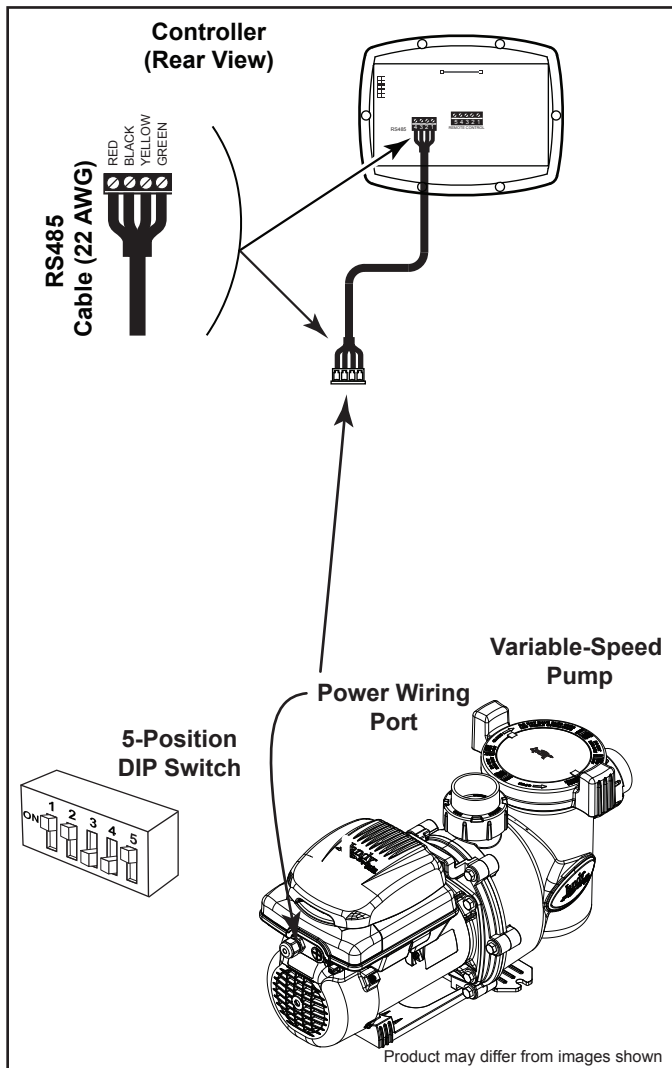

Figure 9. Wiring Variable-Speed Controller (JEP-R)
4. Attach the four (4) wires in the RS-485 cable to the RS-485 connector. Match the wire colors with the positions on the connector: 1- red, 2- black, 3- yellow, and 4- green. See Figure 9.
6. Slide DIP switches 1 and 2 up, so they are in the ON position, and slide switches 3 and 4 down, so they are in the OFF position. See Figure 9.